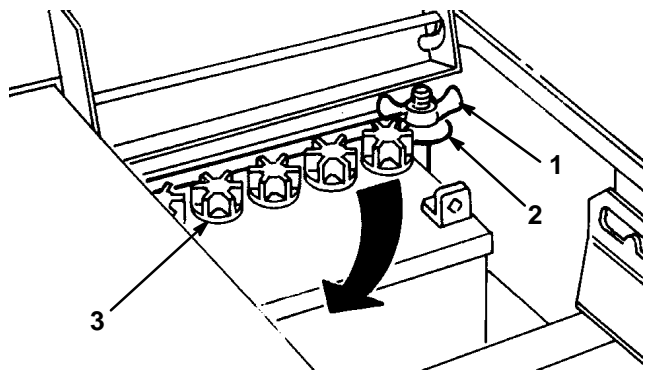

Figure 27
3. Disconnect the negative (black) ground cable from the battery post (Fig. 27).
4. Lift the rubber cover up on the positive (red) cable. Disconnect the positive (red) cable from the battery post (Fig. 27).
5. Remove wing nut securing battery hold downs to rider chassis (Fig.27).